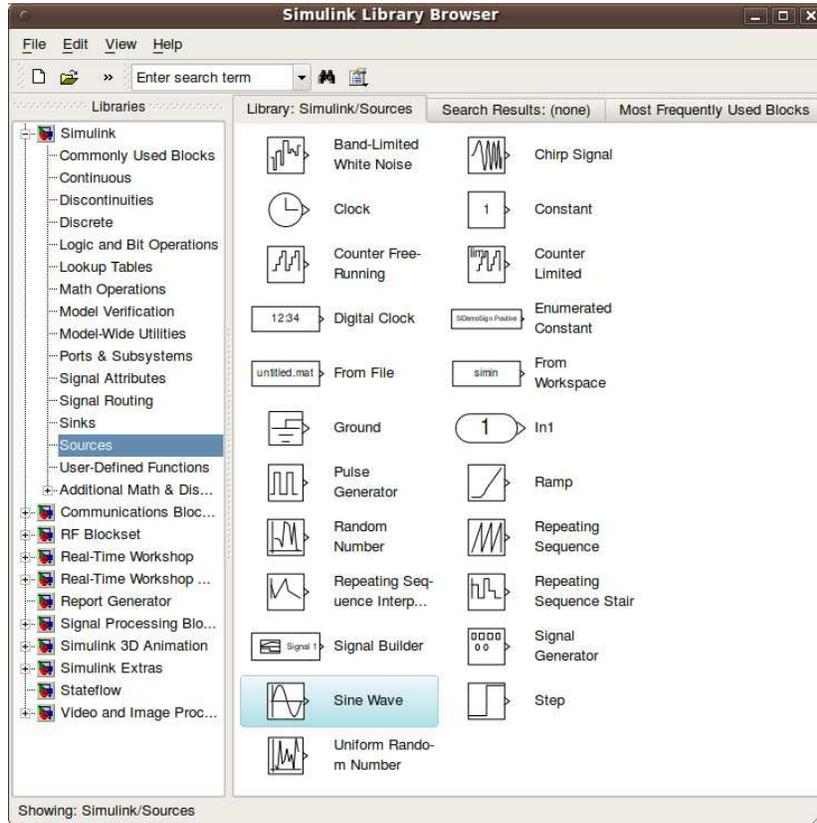

Figure 6: Gather Sine Wave block from Simulink Library Browser.
2. Scroll down until you see the “Sources” folder. Click on “Sources”, the right window will display the various source blocks available for us to use and Sine Wave is one of them, as shown in Fig. 6.